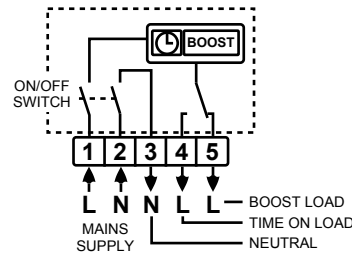

Fig. 5
1. Connect main cable as shown in Fig. 5 below.